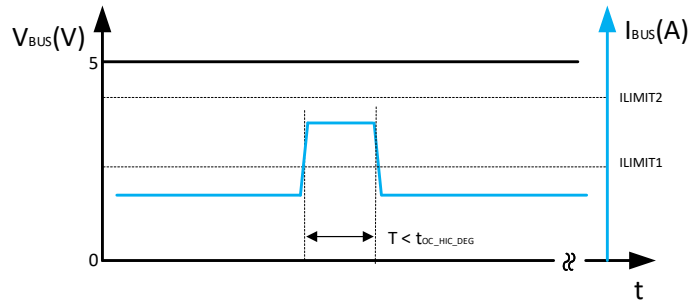

图 10-18. Two level Current Limit Methodology with ext MOSFET Case 1
- Case 1: If the load current I_{BUS} is in the range $I_{LIMIT2} > I_{BUS} > I_{LIMIT1}$, and the duration $< t_{OC_HIC_DEG}$, the external MOSFET will remain on and V_{BUS} will stay unchanged, as shown in 图 10-18.